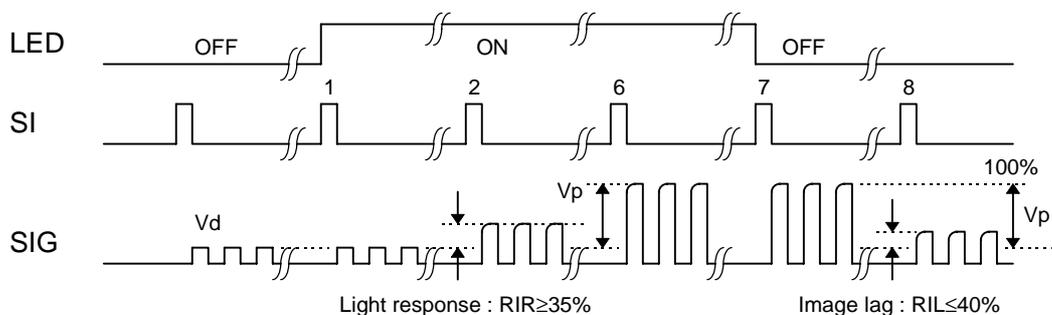

Figure-5
- $RIL$ : Image lag (cf. Figure-5)
- $RIR$ : Light response (cf. Figure-5)